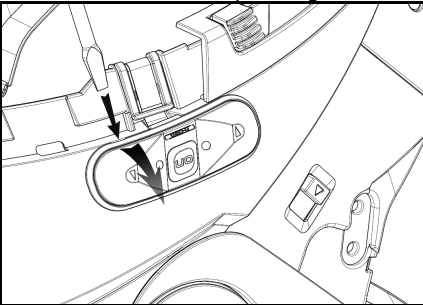

Fig. 8
- Remove the keypad from the shell, using a flat head screwdriver (or a similar tool) to lever upwards in the special hollow as shown in fig. 8.